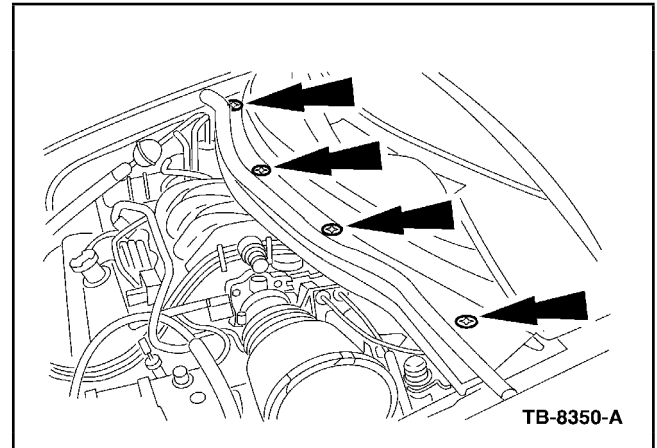

Figure 2 - Article 05-23-7
2. Remove the screws (Figure 2).